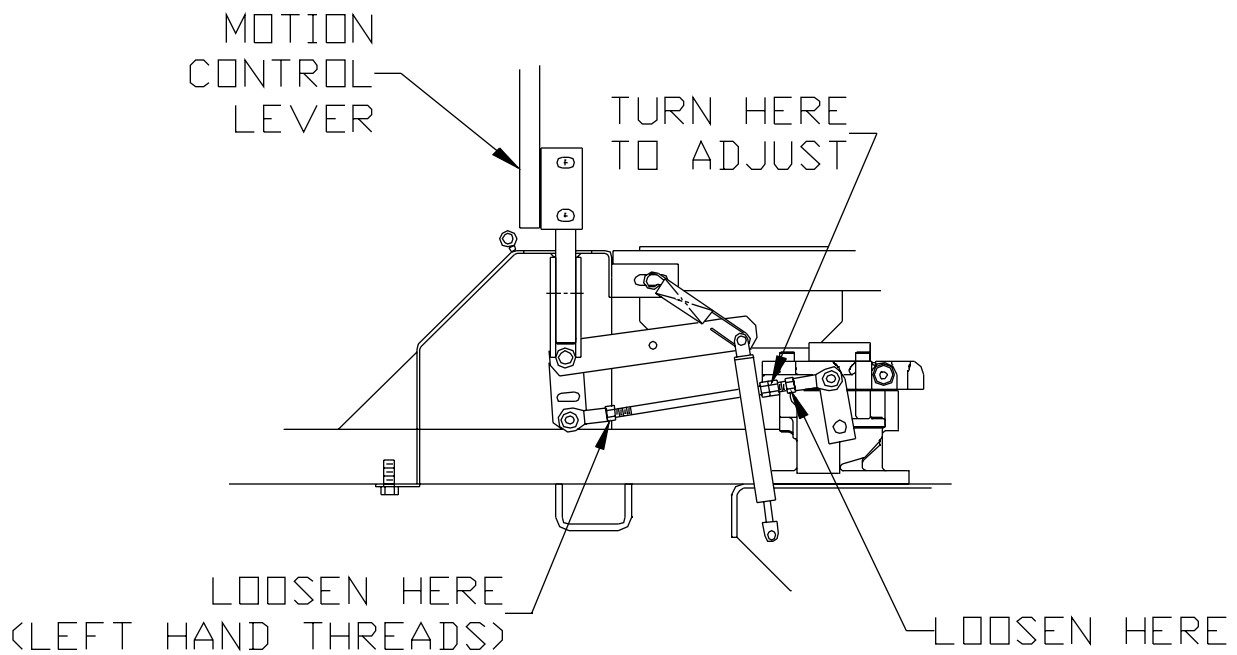

Figure 5b
4. Loosen the nuts directly behind each ball joint on both rods that connect the pump arm to the motion control assemblies. (See Fig 5b)
7. Begin with either side and put the motion control lever into the neutral position. Adjust the motion control linkage by rotating the double nuts on the rod in the proper direction until the wheel stops rotating (See Fig 5b).